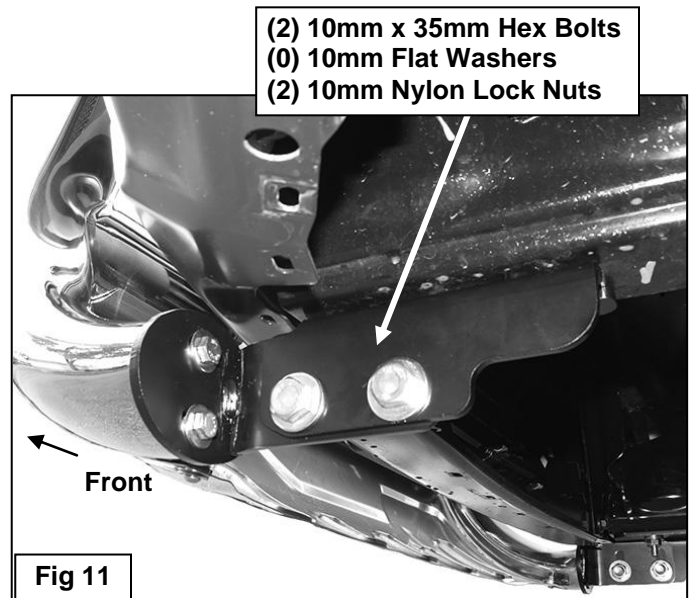

Fig 11
4. With assistance, line up the mounting tabs on the Bull Bar with the inside of the (2) previously installed Frame Mounting Brackets. Bolt the Bull Bar to the Brackets with the included (4) 10mm x 35mm Hex Bolts, (8) 10mm Flat Washers, (4) 10mm Nylon Lock Nuts, **(Figure 11)**. Snug but do not tighten hardware at this time.